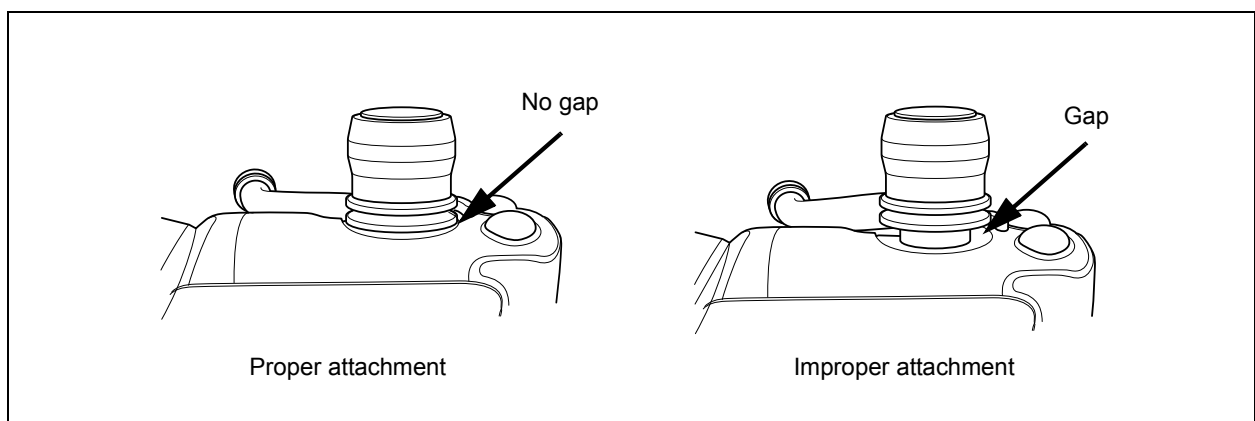

Figure 3.7
3. Inspect and verify that the base of the valve is in contact with the suction cylinder properly. Improper attachment, where a gap still exists between the base of the suction valve and the top of the suction cylinder (see Figure 3.7).